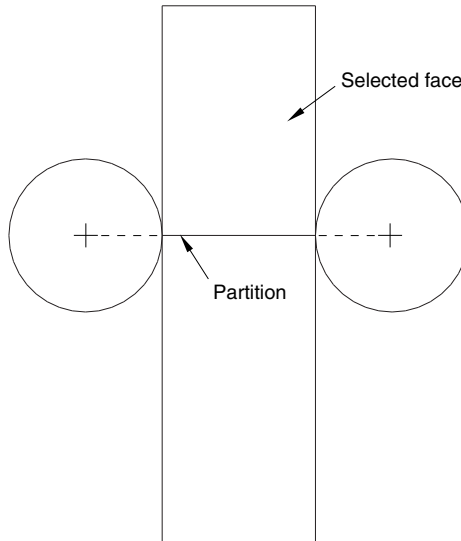

Figure 70–3 A partition between two selected points.
1. The user partitions a face using a line between two selected points (the centers of the two circles), as shown in Figure 70–3.
2. The user modifies the assembly, and the position of the selected points that defined the partition changes. When Abaqus/CAE regenerates the assembly, the partition is still defined as the line between the center of the two circles, as shown in Figure 70–4.